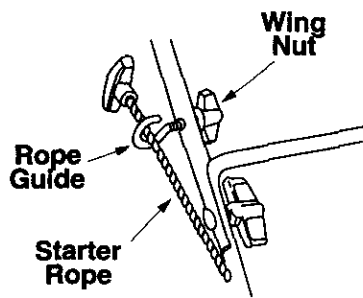

Figure 5
7. Loosen the wing nut which secures the rope guide to the right side of upper handle. See Figure 5.